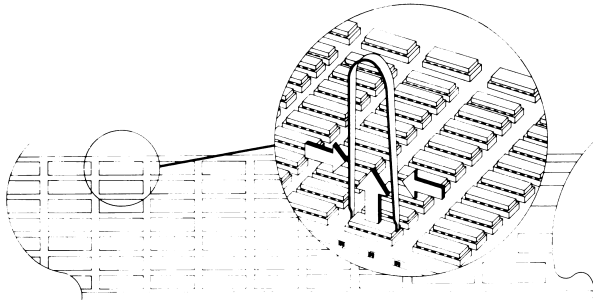

Figure 7-39. Removing a Memory Chip.
5. Using an IC removal tool, remove the (defective) memory chip (Figure 7-39).